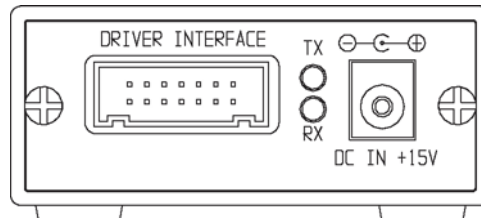

Figure 1. Model 8210A Front Panel
1-3 EQUIPMENT DESCRIPTION: Aeroflex / Weinschel's Model 8210A *SmartStep* Programmable Attenuator/Switch Controller (Figure 1) is designed to interface with Weinschel's line of *SmartStep* programmable attenuators and represents a new concept in device control applications for bench test and subsystem designs. The 8210A provides a high-level interface from a standard communications interface including GPIB (IEEE-488) and RS-232/RS-422/RS485, to the *SmartStep*'s serial Driver Interface Bus.
- d. Connect a +12 to +15 V Power Supply to the Model 8210A's DC IN +15V Input Connector which is located on the Model 8210A front panel (Figure 1), is a standard 2.5mm barrel style DC jack. Refer to accessories for available supply.